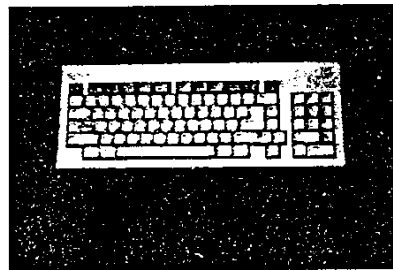

Fig. 2-3. Keyboard
2.2.1 If keyboard replacement is necessary, remove keyboard cable from keyboard assembly, **DO NOT REMOVE KEYBOARD FROM CASE ASSEMBLY**. Warranty exchange is for the entire keyboard assembly, as shown in Fig. 2-3.